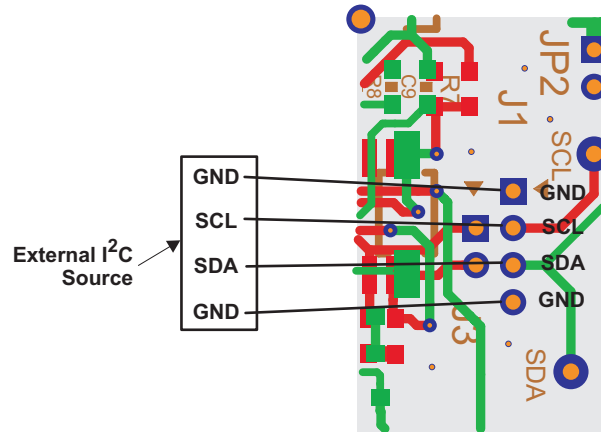

Figure 5. Connect I²C Controls to J1 (YFF EVM shown)
3. Remove shunts between J1 and J3 and connect I²C controls to J1 as shown in Figure 5 (YFF EVM shown).